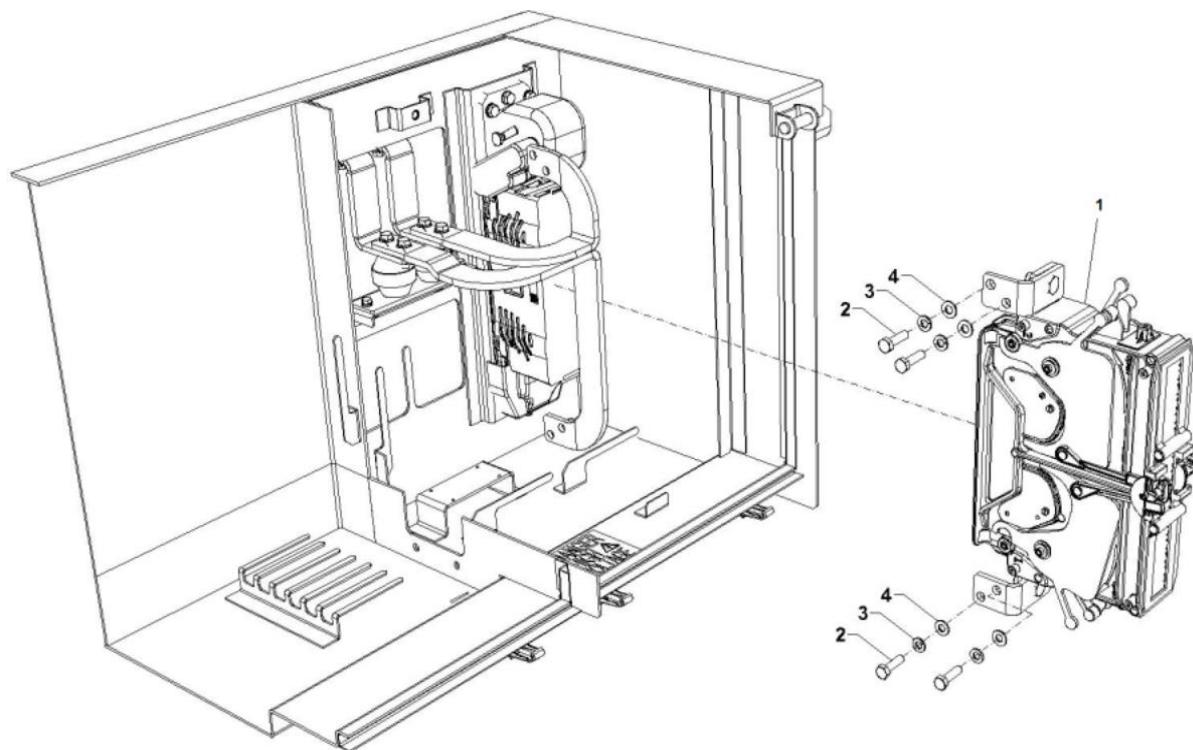

Figure 5-23: Line Switch Contactor Installation
8. Refer to Figure 5-23. Use a 13 mm socket to remove four M8 bolts (2), lock washers (3), and flat washers (4), two on the top and two at the bottom on the left side of the contactor, connected to the bus bars.
9. Squeezing together the black plastic release buttons on the front of the arc chute (1) and turn down the four locking levers one by one. The locking bars will pop up at the release button. Remove the arc chute.